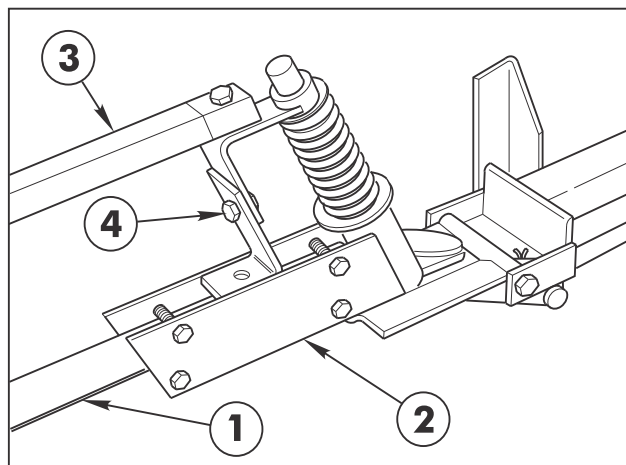

FIG. 3
11. Insert the plugged end of an Extension Boom Pipe into the Pivot Assembly and secure with four (4) 1/4" x 1-1/4" cap screws and lock nuts (See FIG. 3). Repeat on the opposite side to assemble the other Extension Boom.
12. Attach the LH Boom Support Assembly to the Pivot Assembly, using a 5/16" x 1-1/2" cap screw and lock nut. (See FIG. 3 & 4)
13. Secure the two (2) plates of the Boom Support Assembly to the Extension Boom Pipe, using two (2) 1/4" U-bolts, four (4) lock nuts and flat washers. (See FIG. 3)